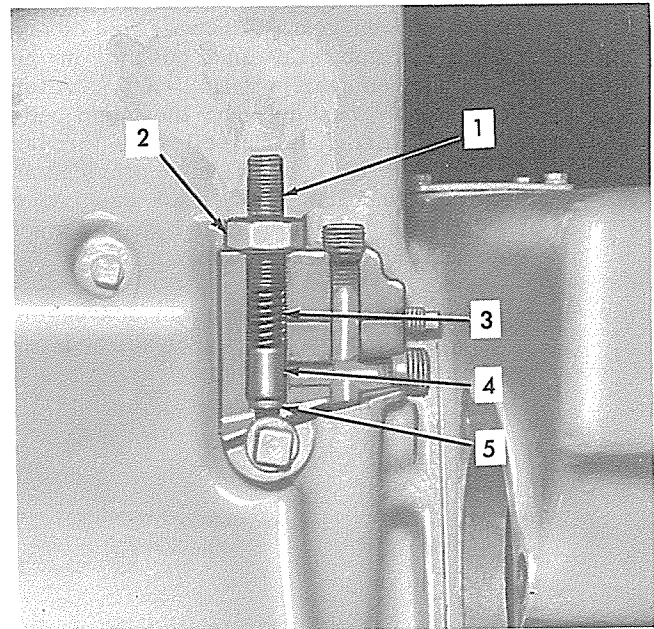

Fig. 12 — Oil Pressure Regulating Valve Cutaway View (T-18735)
Stabilized oil pressure is maintained within the engine by an oil pressure regulating valve, Fig. 12, located in the main oil gallery at right rear corner of cylinder block. When conditions are such that oil pressure at the regulating valve exceeds approximately 30-55 psi., the valve piston is pushed off its seat and excess oil is by-passed through the valve to the crankcase.
B. OIL PRESSURE REGULATING VALVE DISASSEMBLY AND ASSEMBLY (Fig. 12)
1. Loosen jam nut (2) and remove screw (1) noting the number of turns required for removal. Remove valve spring (3) and piston (4).
3. Lubricate valve seat insert (5) and piston (4) with clean oil. Install piston and valve spring in position in cylinder block.
4. Install pressure regulating valve screw (1).